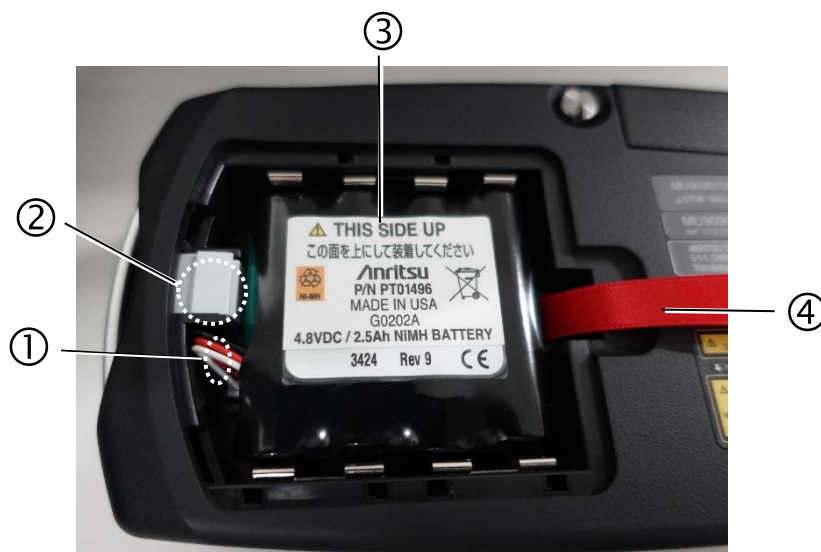

Figure 1.3.2-1 Open Battery Compartment
2. Open the battery compartment (Figure 1.3.2-1) by pulling the latch while lifting the battery compartment cover.
1. Power down the unit. Open the battery compartment (Figure 1.3.2-1 for location) by pulling the latch while lifting the battery compartment cover.